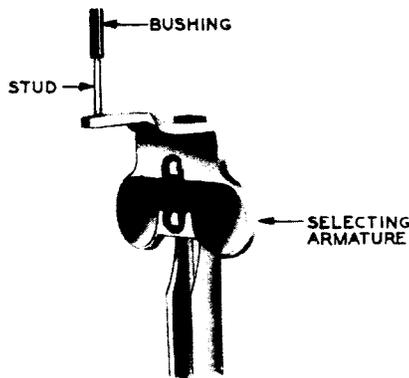

Fig. 11 – Bushing and Armature
- (1) Remove the selecting bar as covered in 3.06. Remove the bushing from the stud by crushing it with the P-long-nose pliers. Round off the crimped end of the stud with the P-long-nose pliers to permit pressing on the replacing bushing. Place a new bushing in position on the end of the stud as shown in Fig. 11.
- (2) Place the P-10A200 sleeve over the bushing. Force the bushing on the stud and against the armature with the combination